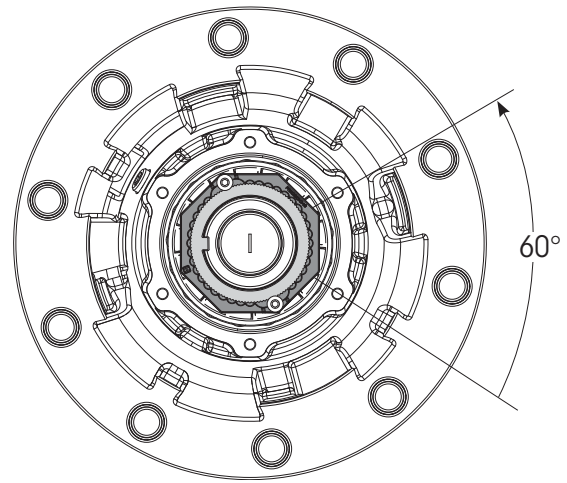

Figure 12: Back off nut 1/6 turn
8. Back off nut 1/6 turn (Figure 12, one hubcap screw hole).